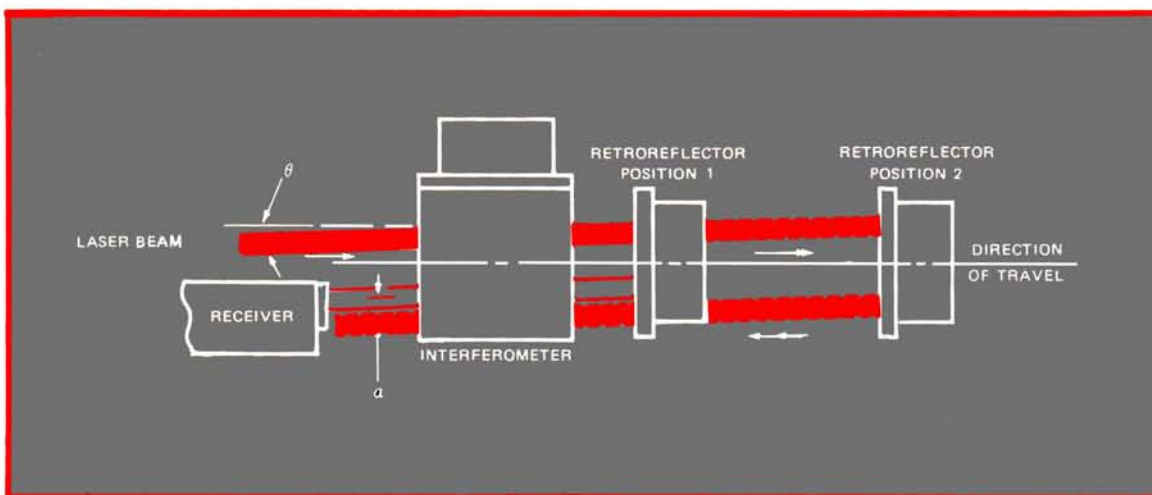

Figure 2-51. Effects of Angular Misalignment to the Direction of Travel
If the measurement beam is not angularly aligned parallel to the mechanical motion of travel of the retroreflector, there are two effects. First, a cosine error is included in the measurement of a magnitude directly related to the angle of misalignment. (For a complete description of cosine error refer to Accuracy Considerations.) Second, the angular misalignment also causes a displacement of the measurement beam with respect to the reference beam at recombination. This results in additional signal loss. Figure 2-51 illustrates the result of angular misalignment.
The visual alignment technique relies on the principle that if the measurement beam to the retroreflector is not parallel to the direction of travel, it is offset upon recombination with the reference beam of the interferometer (see *Figure 2-51*). When the interferometer and retroreflector are at the closest point to each other, the laser beam and optics are adjusted such that the reference and measurement beams completely overlap. When either the retroreflector or interferometer are moved along the measurement path, any angular misalignment causes a displacement of one laser beam with respect to the other which can be visually observed. Since the human eye can resolve a displacement of the beam of approximately 300 micrometres (0.01 inch) this technique can be applied for measurement travel of 0.5 metres (20 inches) or longer. For travel less than this, the sensitivity of this technique is normally not sufficient and autoreflexion alignment should be used. The cosine error (E) in parts per million can be calculated from the following formula: